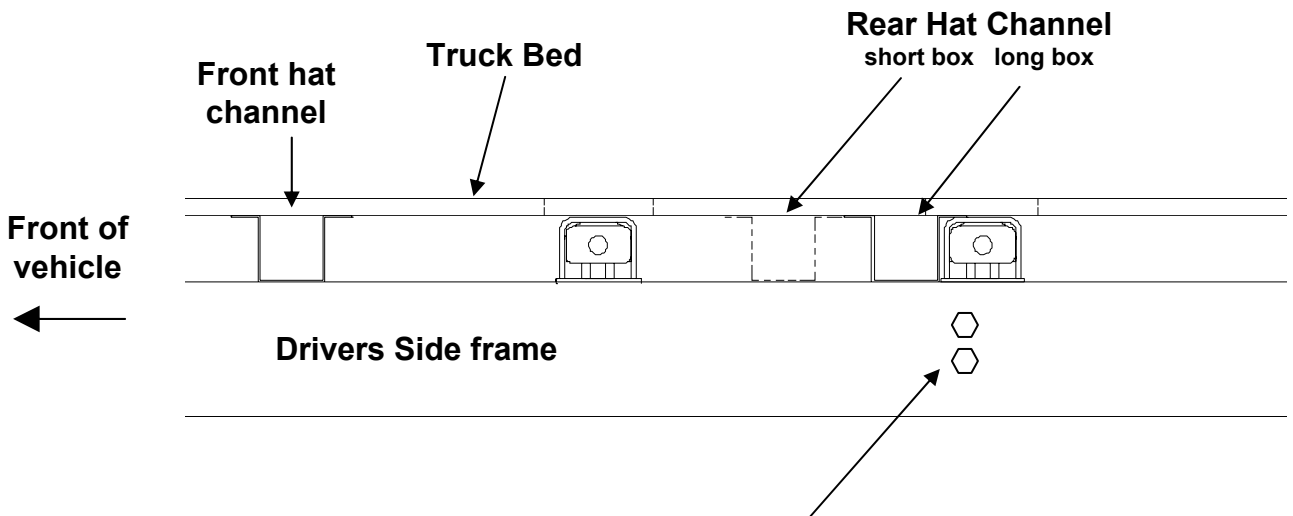

Figure 8
6. Remove brake line bracket from inside of driver side frame (Figure 8).